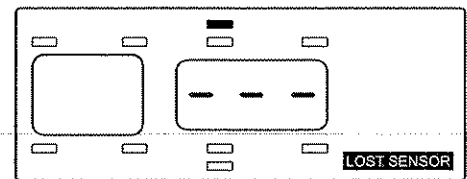

Figure 4-3
The Doran 360HD monitor is capable of monitoring for a lost sensor signal (see Figure 4-3). If the monitor is unable to receive a signal from a sensor for more than 18 minutes an alarm will be displayed for that sensor. This does not mean that the sensor is missing, just that a signal was not able to get to the monitor. This could be from other signals interfering with the sensor signal, interference from structures, or a poor signal. By FCC rules we must allow signals from other sources to interfere with our signals. The Doran 360 series sensors, as well as all the other TPMS systems on the market are not allowed to interfere with other radio frequency (RF) signals.